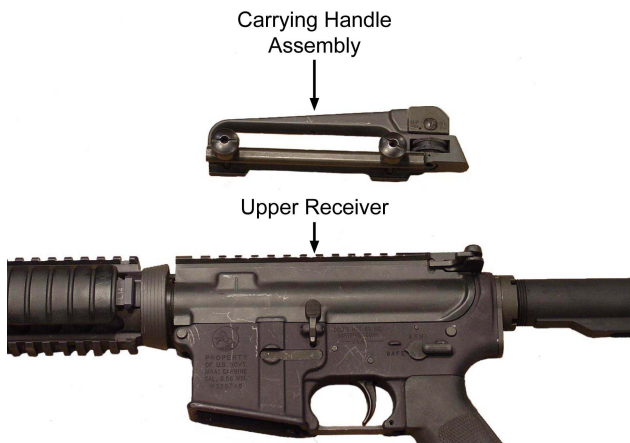

Figure 3-5. Clamping Bar and Carrying Handle Assembly
- (1) Loosen the round nuts on the left side of the carrying handle, approximately 4 turns.
- (2) Loosen the clamping bar from the left side of the upper receiver and lift off the carrying handle assembly. Refer to Figure 3-5.